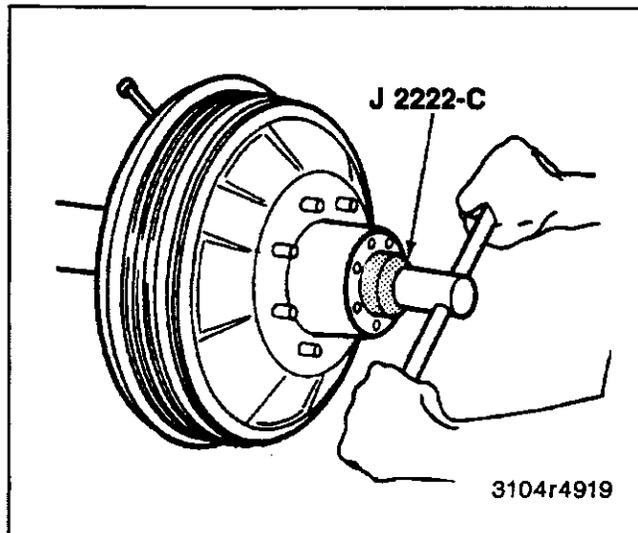

Figure 28—Removing or Installing Bearing Adjusting Nut
3. Nut using J 2222-C, or retaining ring. Refer to figure 28.
5. Adjusting nut. Refer to figure 28.
3. Adjusting nut. Refer to figure 28.
5. Nut or retaining ring. Refer to figure 28.